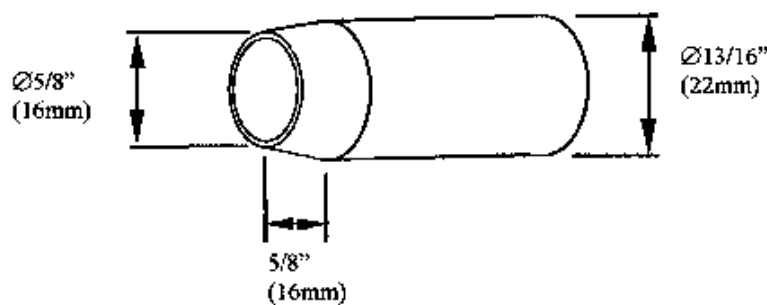

Figure 7 Chamfer dimensions for the $\text{Ø}1/2''$ PVC pipe
- Using a rough file chamfer the end of the pipe to be threaded to the dimensions shown in Figure 7.